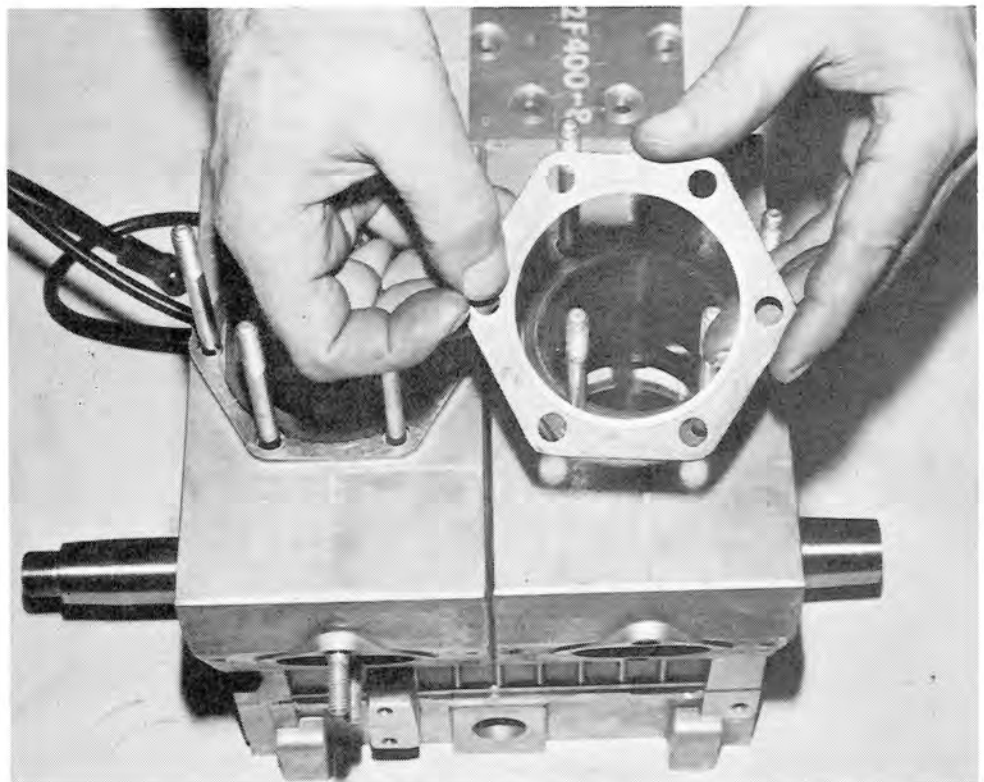

FIG. 1-40
Oil cylinders and pistons before installing cylinder heads. Install head gaskets with the wide side of inner metal flange of the gaskets **up** toward the cylinder heads. Torque cylinder head nuts to sixteen (16) to eighteen (18) foot pounds. (See Fig. 1-40).